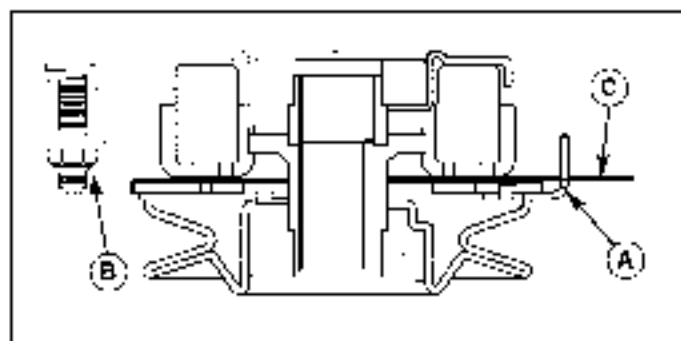

Figure 22. Adjust PTO Clutch
3. Insert a .012"-.015" (2.5-4 mm) feeler gauge (C, Figure 22) through each window, positioning the gauge between the rotor face and the armature face.
4. Alternately tighten the adjustment nuts (B) until the rotor face and armature face just contacts the gauge.